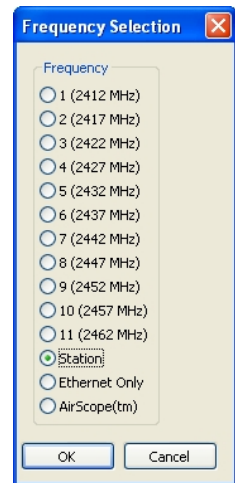

Figure 23: Station
1. Starting a new network of ESTeem 195Eas in Mobile Client mode is the same as any of the Bridge modes except when you are asked for the frequency (channel) of operation, select "Station" (Figure 23).